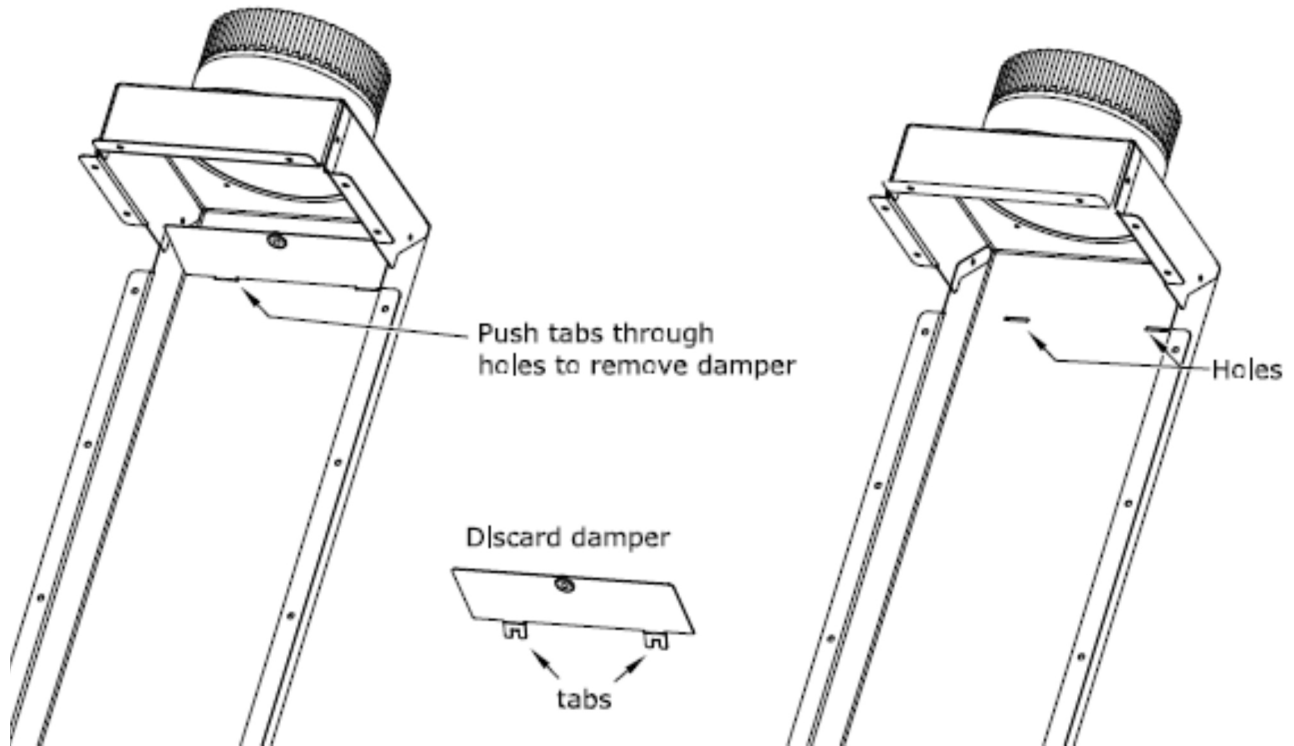

Figure 4.6 - HTK Air Chute Damper Removal for HTK-INT Installations
**Note:** If you are using the HTK-INT the damper must be removed. See Figure 4.6.